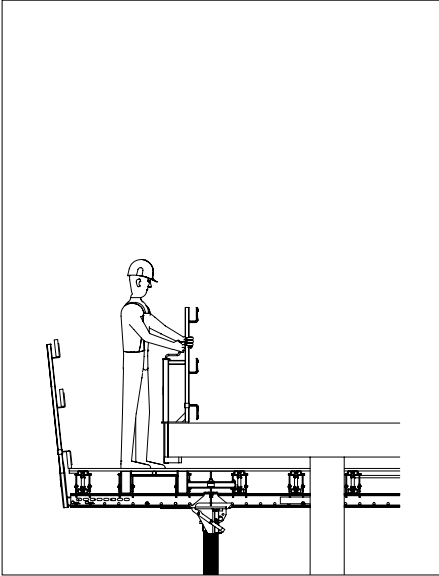

Fig. E.01
- Technical and collective safety measures (Fig. E.01) are given preference over individual solutions.
- As collective anti-fall protection, e.g. assembly from a safe position. (Fig. E.01)